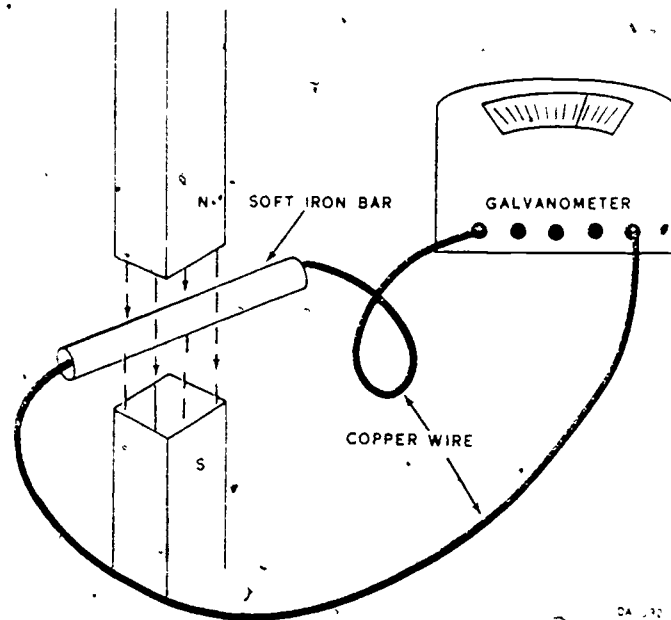

Figure 4. Simple Generator
1. Using a galvanometer, two lengths of copper wire, and a soft iron bar, arrange these components to make a circuit similar to the drawing shown in figure 4.
3. With the same iron bar used in figure 4, move it at right angles to the magnetic field between the north and south pole. Notice the galvanometer pointer movement.